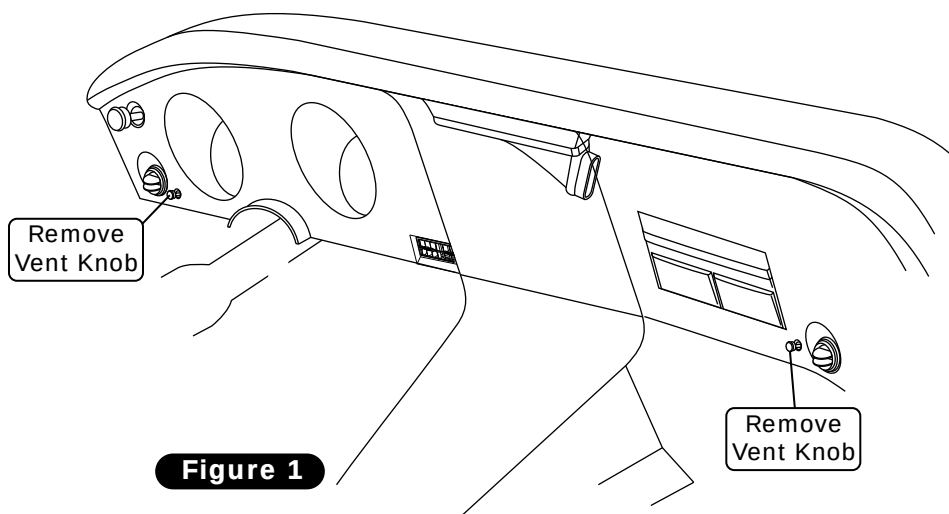

Figure 1
1. Remove the (2) vent knobs as shown in Figure 1, below (retain).
1. Align the template (provided on Page 34) on the back side of the passenger-side dash as shown in Figure 1, below.
1. Install the hose adapter onto the driver side under dash louver using a #8 x 1/2" pan head screw as shown in Figure 1, below, and the Control Panel & Duct Hose Routing, Page 28.